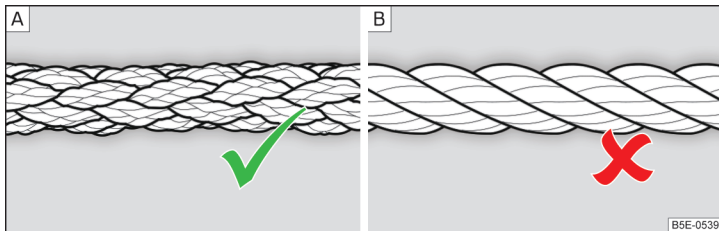

Fig. 279 Braided tow ropes/spiral tow rope
To tow with a tow rope, use only a braided synthetic fibre rope » Fig. 279 - [A] » **I**.
- Spiral tow ropes must not be used for towing » Fig. 279 - [B], the towing eye may unscrew out of the vehicle - risk of accident.